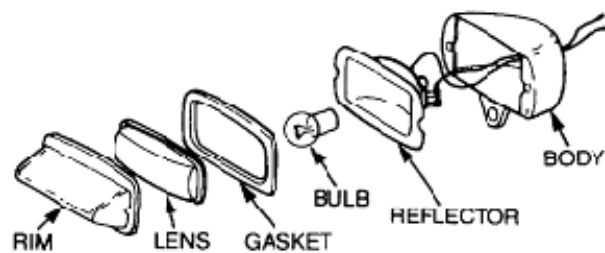

Figure 155 Reduced Headlight Exploded View
- Remove the two screws securing the light rim, lens and gasket (Figure 155).